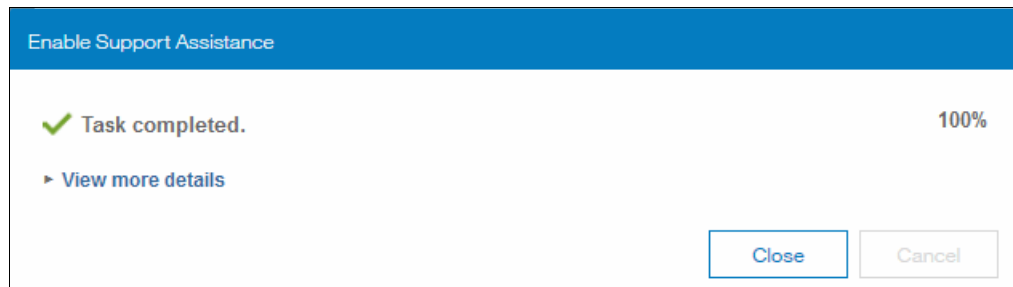

Figure 6-103 Enable support assistance status pane
3. The Enable Support Assistance status pane is displayed (Figure 6-103).